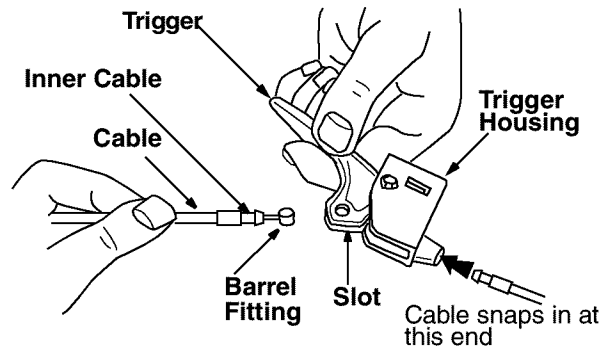

Figure 11
- Place the cable barrel fitting into the hole in the trigger. See Figure 11. You can find the triggers and associated hardware in group H of the hardware pack.
- Pull on the cable and rotate it around the bottom of the trigger, with the inner cable in the slot, until the cable end can be pushed into the trigger housing and snapped tight. See Figure 11.